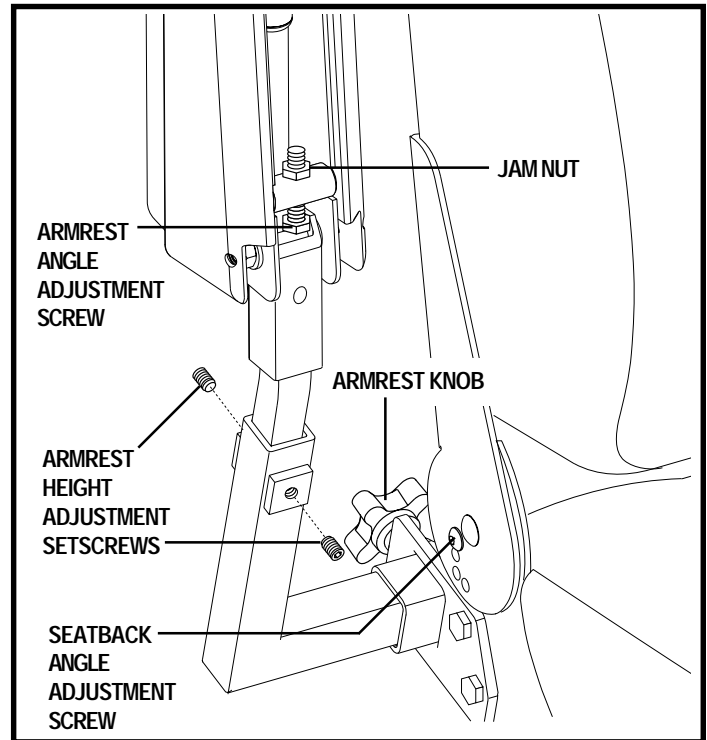

Figure 14. Seatback/Armrest Adjustment
1. Remove the adjusting screws from each seat hinge. See figure 14.
1. Locate the two armrest knobs on each side of the armrest receiver bracket. See figure 14.
1. Lift the armrest straight up so that it is perpendicular to the floor. See figure 14.
1. Loosen the setscrews on the armrest. See figure 14.